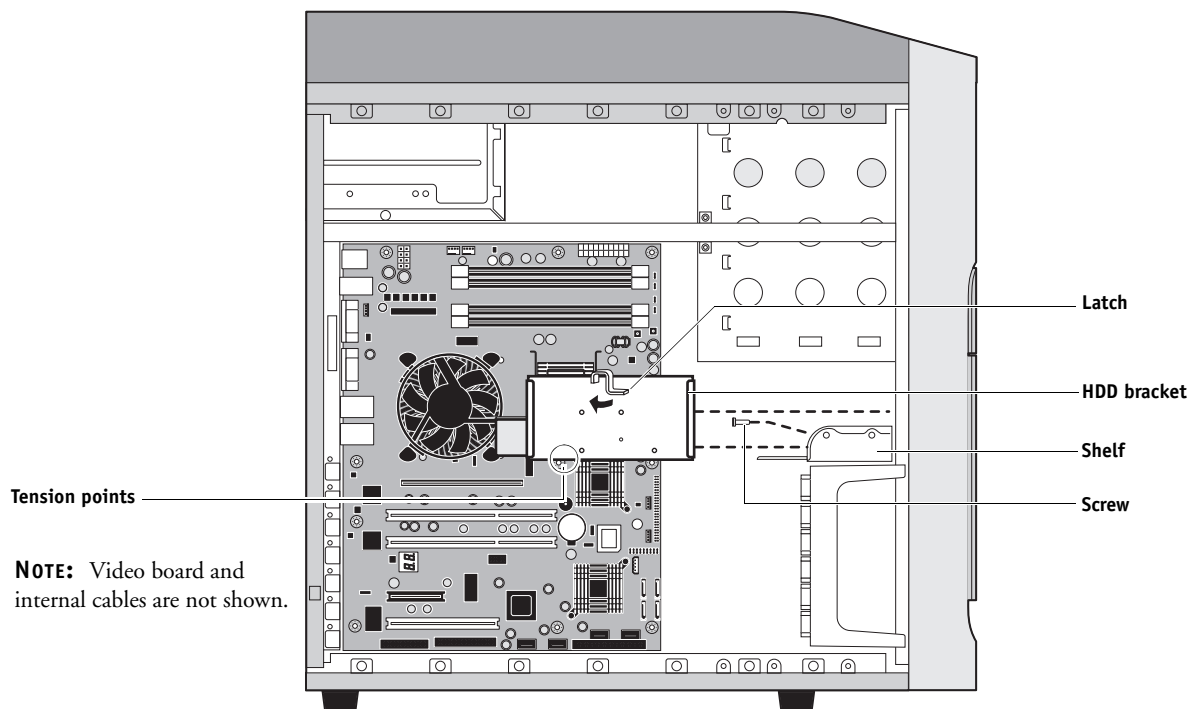

FIGURE 31: Removing/replacing the HDD bracket
6. Slide the HDD bracket off the shelf and lift it out of the chassis (see Figure 31).